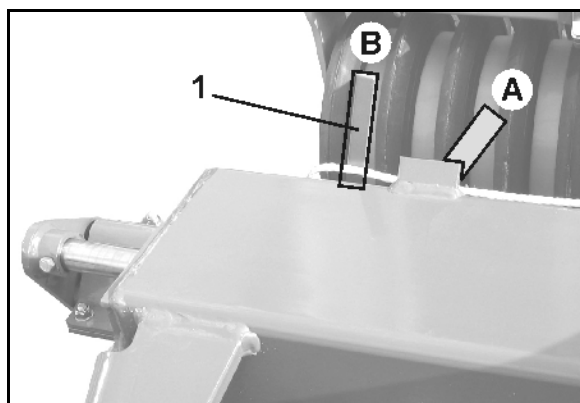

Fig. 27
- Fig. 27 - Right machine side, position A.